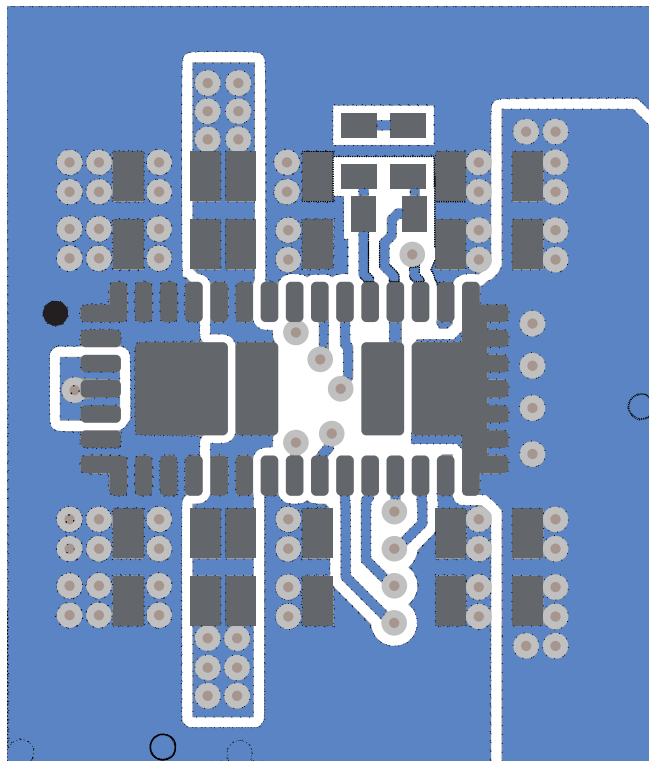

Figure 9-43. Layout Example
- Refer to Figure 9-43 for an example of component placement, routing, and thermal design.